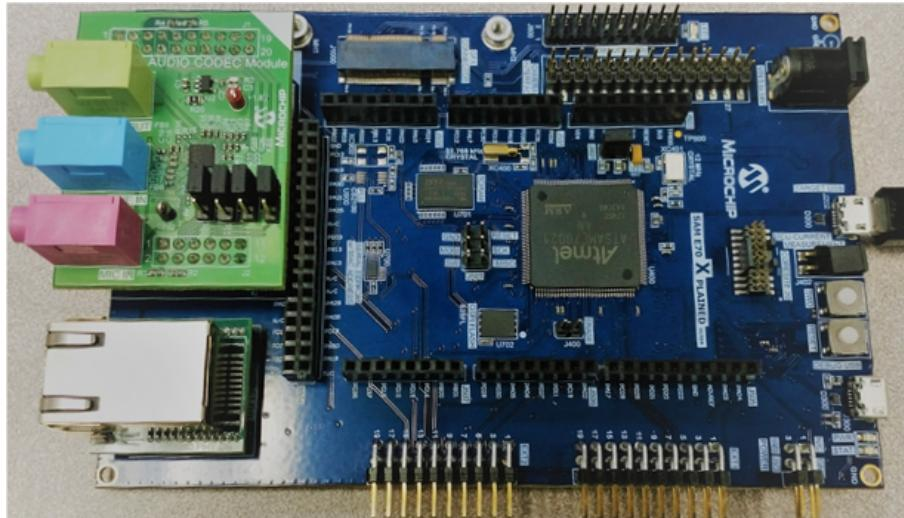

Figure 1. WM8904 Audio Codec Daughter Board on SAM E70 Xplained Ultra board. Headphone Out Jack is green.
1. Attach the WM8904 Daughter Board to the X32 connector. Connect headphones to the HP OUT jack of the WM8904 Audio Codec Daughter Board (see Figure 1).